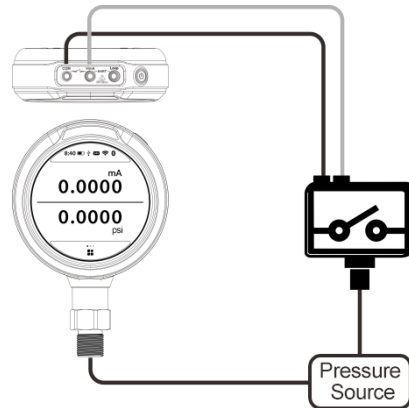

Figure14 Calibrate Pressure Switch
- (1) The air and circuit connection between pressure switch and calibrator are shown in Figure14 (in the Figure it is mechanical switch).